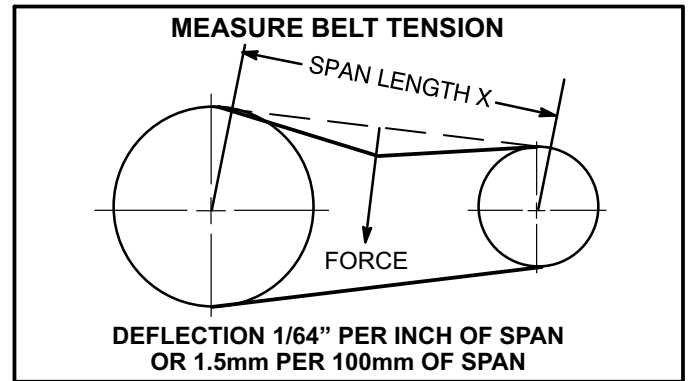

FIGURE 9
- 1- Measure span length X. See figure 9.